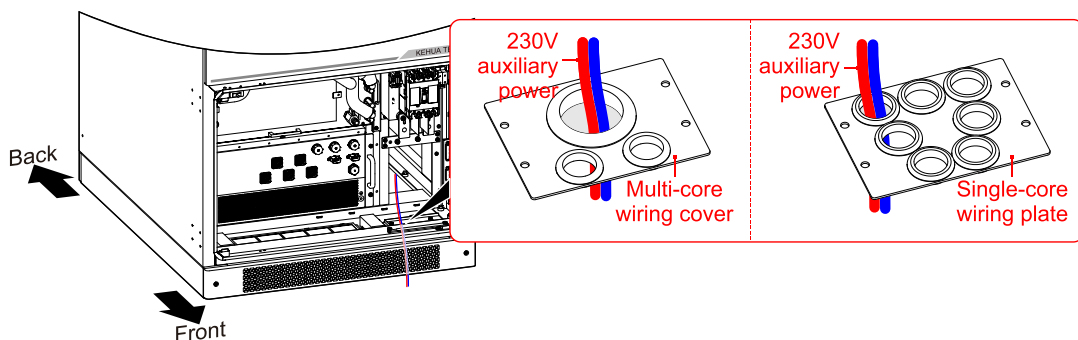

Figure4-20 Wiring hole diagram
Step 1 Lead the 230V auxiliary power supply cable go through the bottom wiring hole, as shown in Figure4-20.